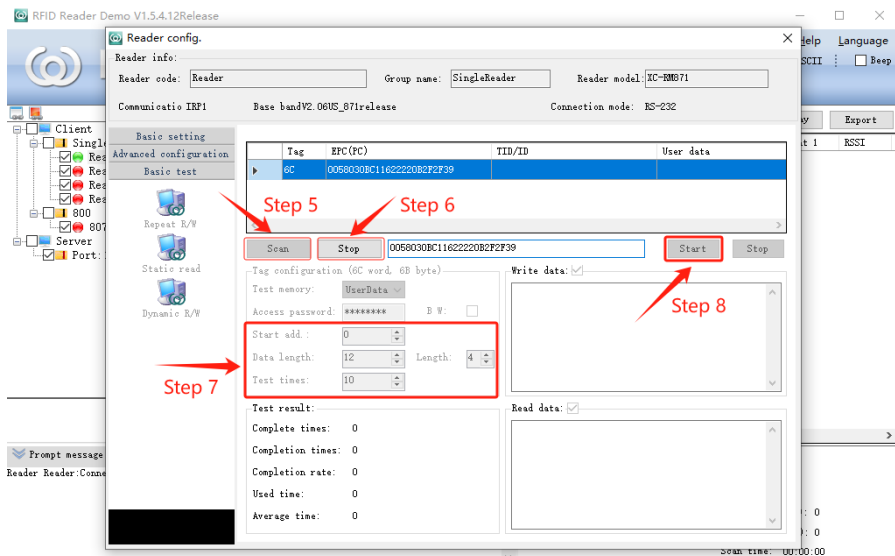

Figure 5-17 Write Tags Diagram 5
- 5) As shown in Figure 5-17, click “Scan” to lock the tag, and then click “Stop”;